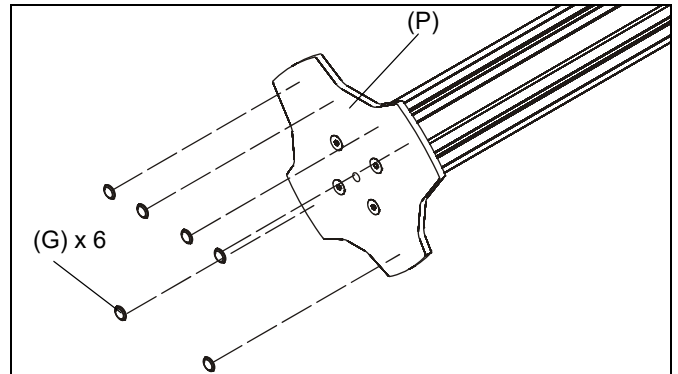

Figure 8
- Apply bumpers (G) to underside of grommet plate (P). (See Figure 8)